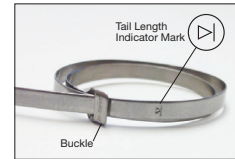

Fig. 3
- B. Pull on band until mark () is within approximately .250 inch (6.4mm) of buckle slot (Figure 3). The band may be tightened further if desired.
NOTE: Prepared band should have this (▷) mark visible approximately where shown in Figure 3.